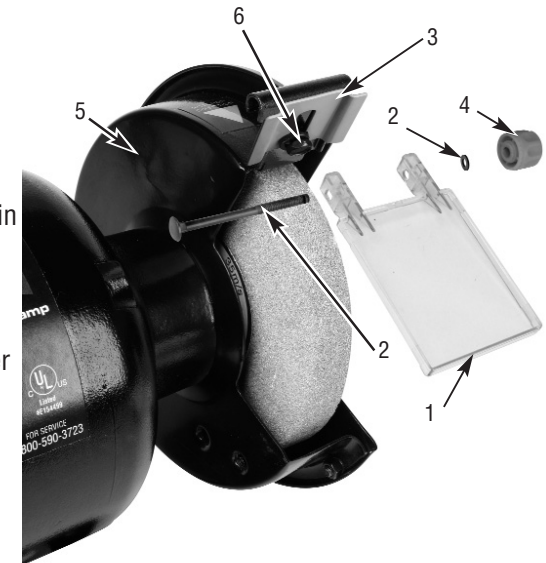

FIGURE 3. INSTALLING THE EYE SHIELD
1. Remove the two Spark Deflectors (3) and the two smaller bolts and washers (6) from the parts bag.
2. Install the Spark Deflectors to the Wheel Guards (5) as shown in Figure 3. Adjust them to within 1/8 in. of the Grinding Wheel.
1. Remove the bolt, washer (2) and Eye Shield Locking Knob (4) from the top of the Eye Shield (1).
2. Position the Eye Shield to the Eye Shield Bracket as shown in Figure 3.